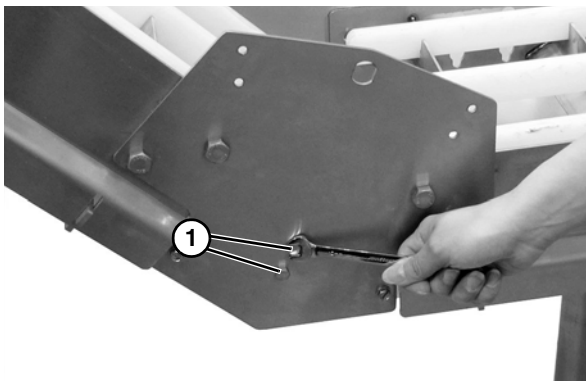
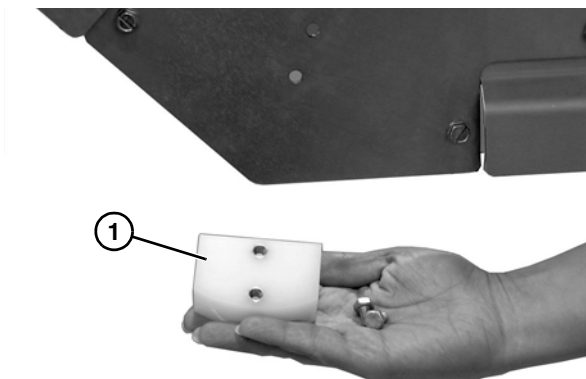

Figure 67
Figure 68
4. Remove two cap screws (**Figure 67, item 1**) and the inner belt return guide (**Figure 68, item 1**). Repeat on opposite side of the conveyor.